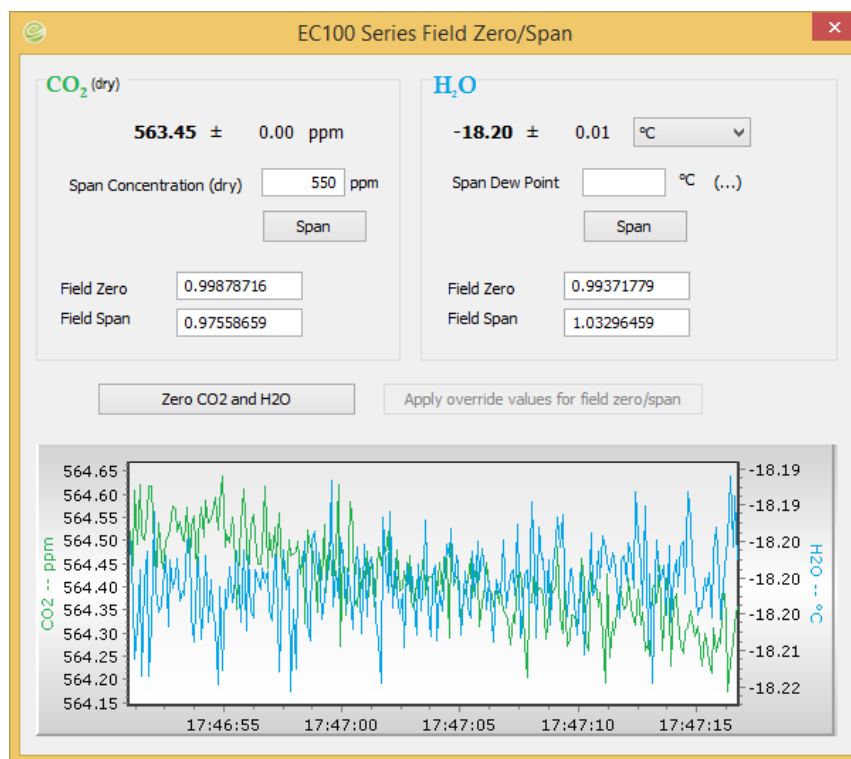

FIGURE 9-10. ECMon Zero/Span window
6. Click on the **Zero/Span** button on the main screen of *ECMon*. A real-time graph at the bottom of the window will appear that displays concentrations of CO₂ and H₂O (see FIGURE 9-10).